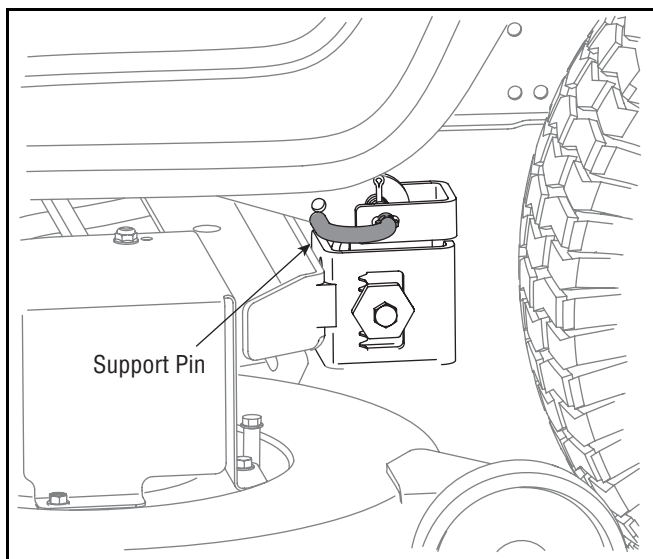

Figure 23
- Pull the deck support pin outward to release the deck from the deck lift arm. See Figure 23.